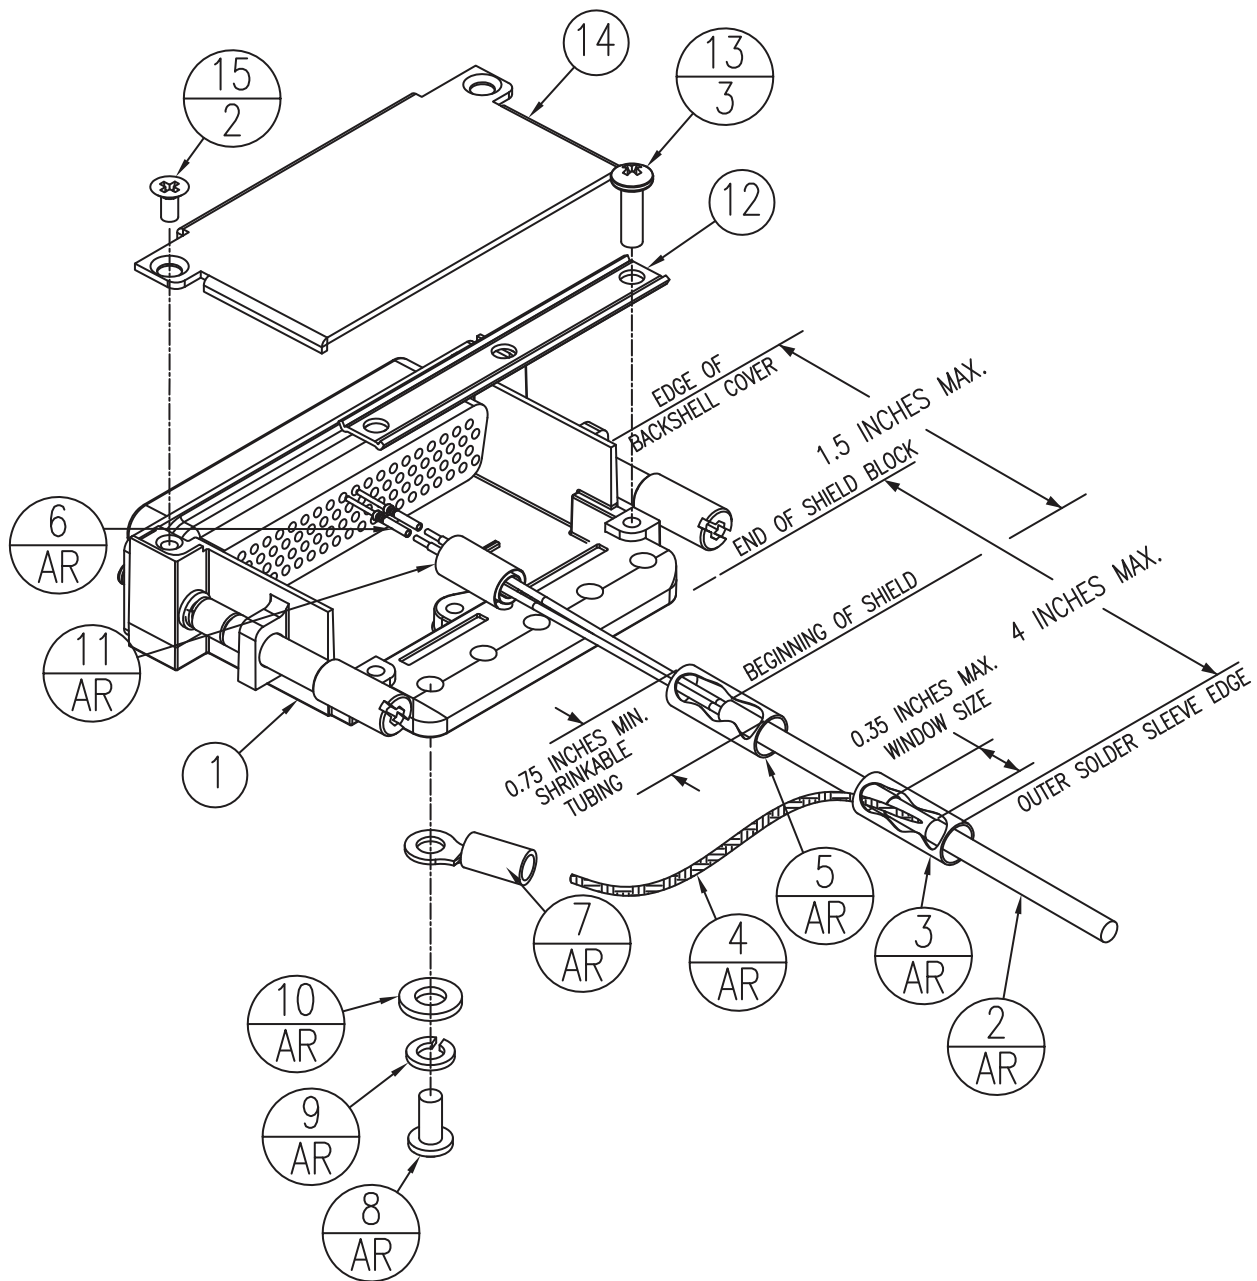
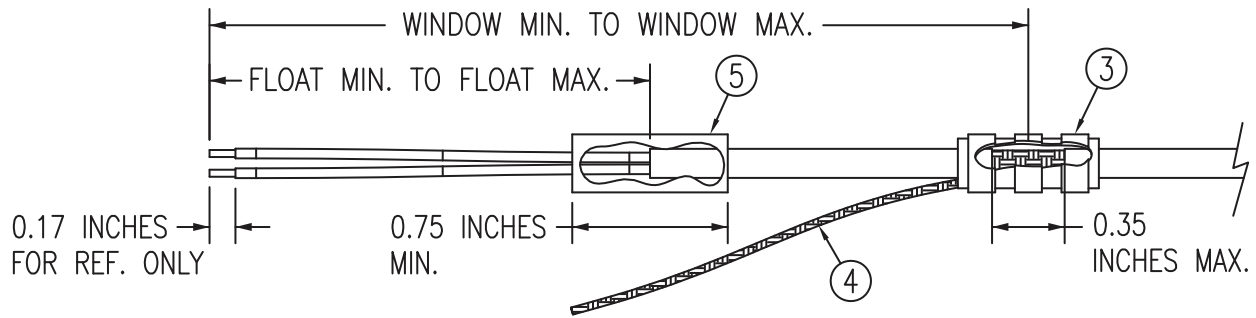
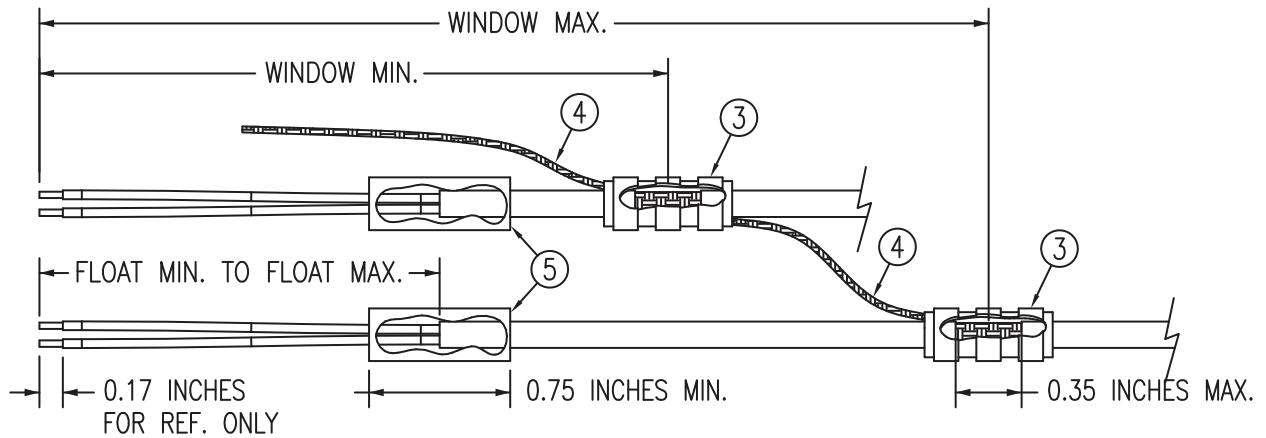
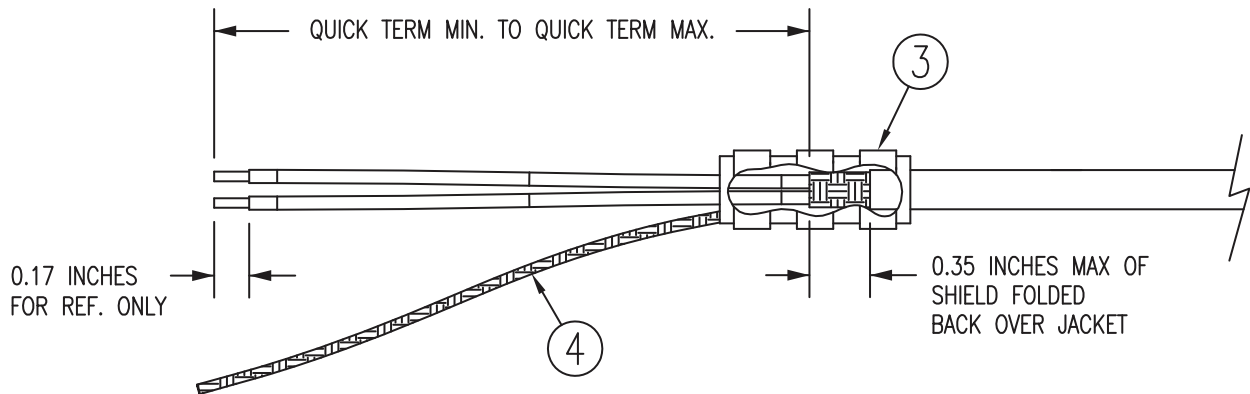

Figure 22-1 Shield Install onto a Jackscrew Backshell (78 pin example)
Figure 22-2 Method A.1 for Shield Termination
Figure 22-4 Method A.2 (Daisy Chain) for Shield Termination
Figure 22-5 Method B.1 (Quick Term) for Shield Termination
Table 22-1 and Table 22-2 list the parts needed to install a Shield Block, the item numbers in these tables correspond to Figure 22-1. Parts listed in Table 22-1 are supplied in the LRU Connector Kits (see Table 1-4). Parts listed in Table 22-2 are to be provided by the installer.
Table 22-1 Parts supplied for a Shield Block Installation (Figure 22-1)
Table 22-2 Parts not supplied for a Shield Block Installation (Figure 22-1)
In Figure 22-1, "AR" denotes quantity "As Required" for the particular installation.
22.2.2 Backshell Assembly (refer to Figure 22-1)
For the following steps please refer to Figure 22-1 and Figure 22-2.
2. At one end of a shielded cable (item 2, Figure 22-1) measure a distance between “Window Min” to “Window Max” (Table 22-3) and cut a window (max size 0.35”) in the jacket to expose the shield (item 4, Figure 22-2). Use caution when cutting the jacket to avoid damaging the individual braids of the shield. When dealing with a densely populated connector with many cables, it may prove beneficial to stagger the windows throughout the “Window Min” to “Window Max” range. If staggering is not needed the “Ideal Window” length is recommended.
3. Connect a Flat Braid (item 4, Figure 22-2) to the shield exposed through the window of the prepared cable assembly (item 2, Figure 22-1) from step 2. The Flat Braid should go out the front of the termination towards the connector. It is not permitted to exit the rear of the termination and loop back towards the connector (Figure 22-2). Make this connection using an approved shield termination technique.
Slide a solder sleeve (item 3, Figure 22-1) onto the prepared cable assembly (item 2, Figure 22-1) and connect the Flat Braid (item 4, Figure 22-2) to the shield using a heat gun approved for use with solder sleeves. It may prove beneficial to use a solder sleeve with a pre-installed Flat Braid versus having to cut a length of Flat Braid to be used. The chosen size of solder sleeve must accommodate both the number of conductors present in the cable and the Flat Braid (item 4, Figure 22-2) to be attached.
A preferred solder sleeve would be the Raychem S03 Series with the thermochromic temperature indicator (S03-02-R-9035-100, S03-03-R-9035-100, S03-04-R-9035-100). These solder sleeves come with a pre-installed braid and effectively take the place of items 3 and 4, Figure 22-2. For detailed instructions on product use, reference Raychem installation procedure RCPS 100-70.
Solder a Flat Braid (item 4, Figure 22-2) to the shield exposed through the window of the prepared cable assembly (item 2, Figure 22-1). Create a solid electrical connection through the use of acceptable soldering practices. Use care to avoid applying excessive heat that burns through the insulation of the center conductors and shorts the shield to the signal wire. Slide a minimum 0.75 inches of Teflon heat shrinkable tubing (item 3, Figure 22-2) onto the prepared wire assembly and shrink using a heat gun. The chosen size of heat shrinkage tubing must accommodate both the number of conductors present in the cable and the Flat Braid (item 4, Figure 22-2) to be attached.
- At the same end of the shielded cable (item 2, Figure 22-1) and ahead of the previous shield termination, strip back “Float Min” to “Float Max” (Table 22-3) length of jacket and shield to expose the insulated center conductors (Figure 22-2). The “Ideal Float” length may be best to build optimally.
The jacket and shield should be cut off at the same point so no shield is exposed. Slide 0.75 inches minimum of Teflon heat shrinkable tubing (item 5, Figure 22-2) onto the cable and use a heat gun to shrink the tubing. The chosen size of heat shrinkage tubing must accommodate the number of conductors present in the cable.
Leave a max 0.35 inches of shield extending past the jacket. Fold this 0.35 inches of shield back over the jacket. Slide a solder sleeve (item 5, Figure 22-2) over the end of the cable and use a heat gun approved for solder sleeves to secure the connection. The chosen size of solder sleeve must accommodate the number of conductors present in the cable.
For the item numbers in the following steps 6-13 please refer to Figure 22-1.
In rare situations where more braids need to be terminated for a connector than three per ring terminal it is allowable to daisy chain a maximum of two shields together before coming to the ring terminal (Figure 22-4). All other restrictions and instructions for the shield termination technique set forth for Method A.1 are still applicable.
If desired, the drain wire termination (item 3, Figure 22-4) and the floating shield termination (item 5, Figure 22-4) can be effectively combined into a “Quick Term”. This method eliminates the float in the cable insulation and moves the placement of the window which was described by the dimensions “Window Min” and “Window Max” from Method A. This technique is depicted in Figure 22-5.
The original purpose for separating the shield drain termination (item 3, Figure 22-4) from the float termination (item 5, Figure 22-4) in Method A was to allow for a variety of lengths for the drain wires so the shield drain terminations (item 3, Figure 22-4) would not all “bunch up” in the harness and to eliminate loops in the drain wires. If Method B is chosen, as described in this section, care must be taken to make sure that all drain shield terminations can still be inspected. With connectors which require a large number of shield terminations it may be best to use Method A. This will allow the drain shield terminations (item 3, Figure 22-4) a larger area to be dispersed across.
At the end of the shielded cable (item 2, Figure 22-1), strip “Quick Term Min” to “Quick Term Max” (Table 22-4) length of the jacket to expose the shield. Next trim the shield so that at most 0.35 inches remains extending beyond the insulating jacket. Fold this remaining shield back over the jacket.
Connect a Flat Braid (item 4, Figure 22-1) to the folded back shield of the prepared cable assembly. The flat braid should go out the front of the termination towards the connector. It is not permitted to exit the rear of the termination and loop back towards the connector (Figure 22-5). Make this connection using an approved shield termination technique.
Solder a Flat Braid (item 4, Figure 22-5) to the folded back shield on the prepared cable assembly (item 2, Figure 22-1). Create a solid electrical connection through the use of acceptable soldering practices. Use care to avoid applying excessive heat that burns through the insulation of the center conductors and shorts the shield to the signal wire. Slide a minimum of 0.75 inches of Teflon heat shrinkable tubing (item 3, Figure 22-5) onto the prepared wire assembly and shrink using a heat gun. The chosen size of heat shrinkage tubing must accommodate both the number of conductors present in the cable as well as the Flat Braid (item 4, Figure 22-5) to be attached.